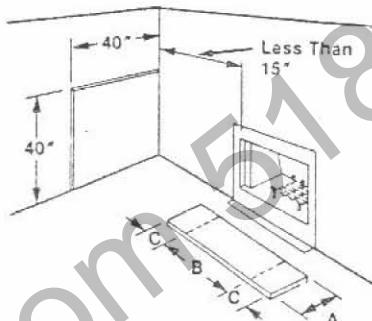

Figure 54
• The hearth extension must extend beyond the front and both sides of the fireplace opening per the dimensions in the chart accompanying (Figure 54). Use either the metal hearth extension (Model HE-33 for HC-3320 or Model HE-36 for HC-3820 and 38B) manufactured by Superior Fireplace Company, or a $\frac{1}{2}$ " thickness of millboard or a durable non-combustible material with equal or greater insulating value. These materials may be covered by a decorative non-combustible veneer.